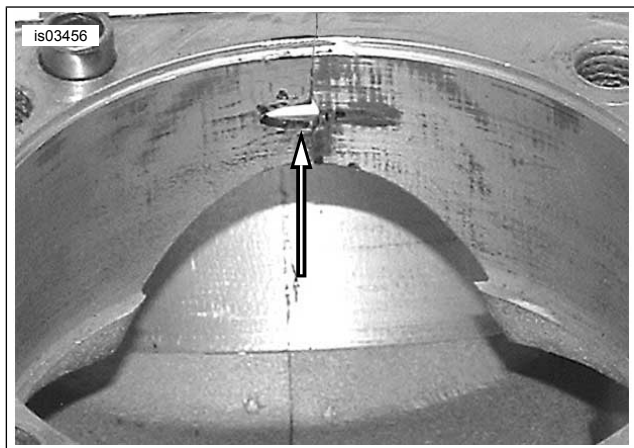

Figure 2. Cylinder Wall
2. See Figure 2. Using a 11/32 in (8.7 mm) drill bit, drill out the existing threads of the top center screw hole. Drill to a depth of 0.79 in (20 mm) from the gasket surface.
5. See Figure 2 and Figure 3. Remove the thin material between the cylinders next to the top center screw as shown. Use a 5/8 in (16 mm) ball end mill and milling a 5/16 in (7.94 mm) radius at the two points shown.